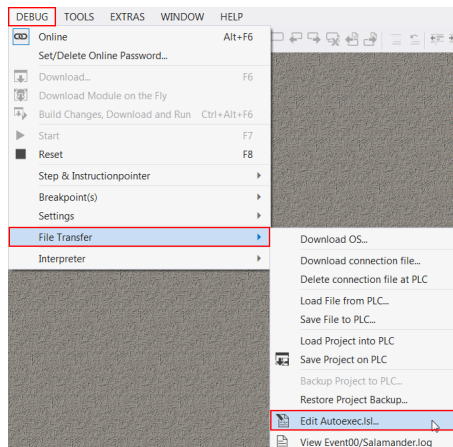

Figure 6.102 Opening the Autoexec.Isf editor from within LASAL CLASS 2.
2. To access the HMI via the RAR, the default gateway must be changed to the IP address of the RAR (Figure 6.102).